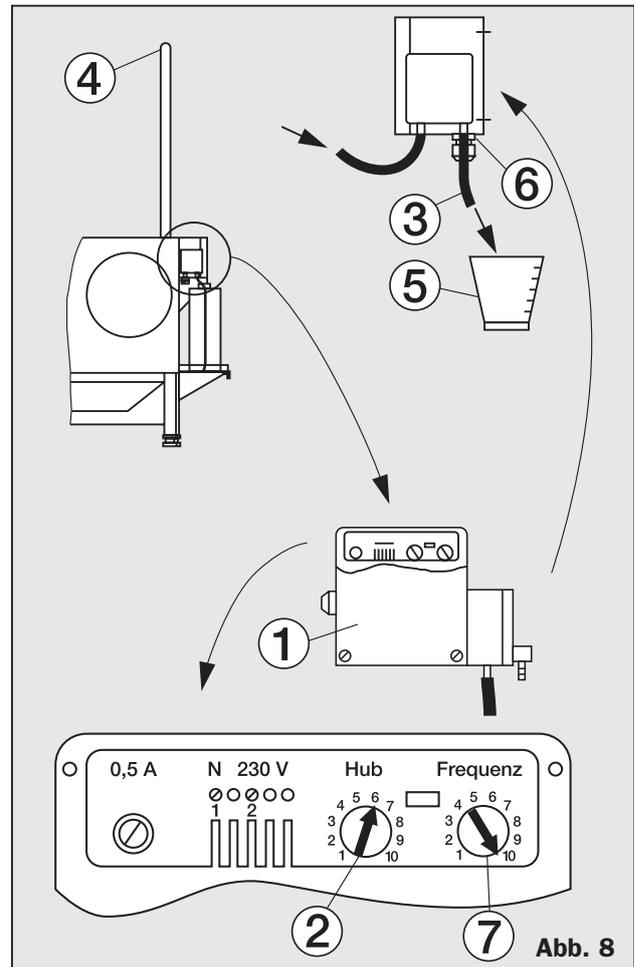

Abb. 8
- (refer to Fig. 8)
- Loosen cover screws and take off cover (1) of metering pump.
- Turn the "stroke" regulating wheel (2) in the counter-clockwise direction using a screwdriver.
- Remove pressure hose (3).
- Press safety pushbutton (4) and hold measuring beaker (5) underneath the pressure connection nozzle (6) of the metering pump.
- Carry out adjustments on "stroke" regulating wheel (2) in accordance with results of measurement. (If the rate of delivery on the metering pump is still too high when adjusting "stroke 1", re-adjust "frequency" regulating wheel (7) in counter-clockwise direction).